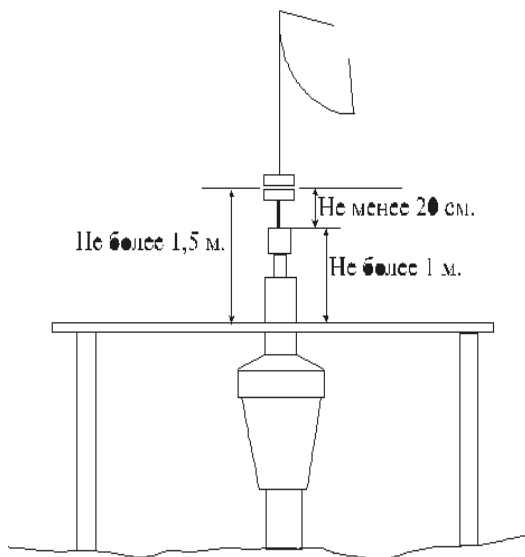

Figure 2. Wellhead equipment
- The wellhead shall be equipped with a service platform for the wellhead polished rod packing so that the upper end of the packing is not more than 1 meter above the site, and the cable hanger cross-beams in the extreme lower position of the horsehead are not more than 1.5 meters. The distance between the lower hanger cross-beam and the cap of the head of the wellhead should be at least 20 cm. (Figure 2).